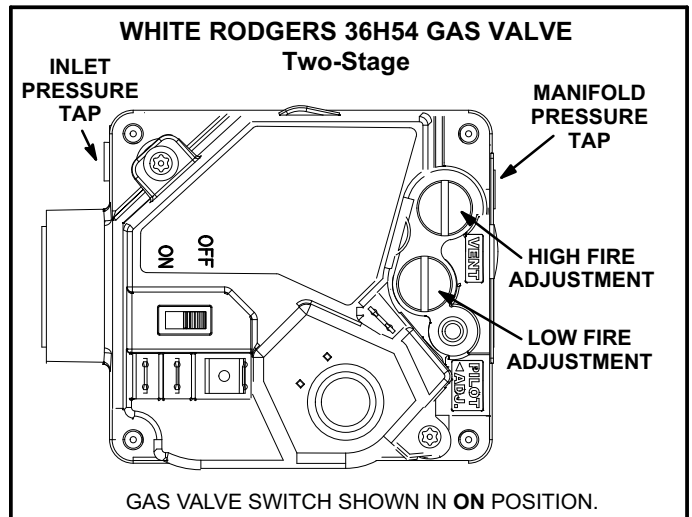
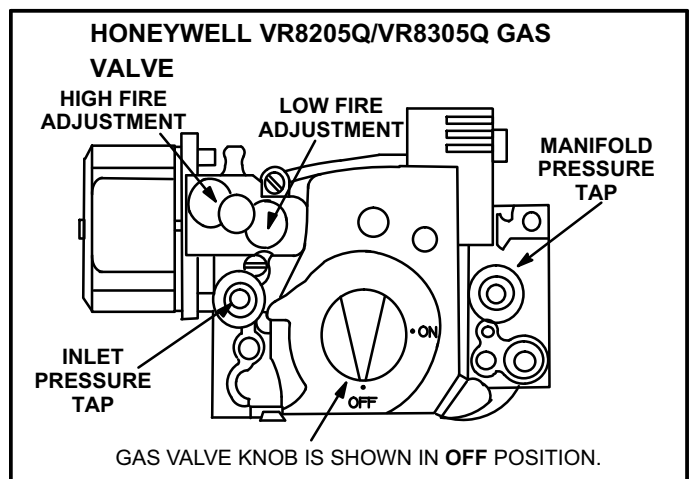

FIGURE 33
FIGURE 34
Gas Valve Operation for Honeywell VR8205Q / VR8305Q and White Rodgers 36H54 (figure 33 and 34)
- 5- Turn gas valve switch to **OFF**. See figure 33. On Honeywell VR8305Q gas valves, turn the knob on the gas valve clockwise  to “**OFF**”. Do not force. See figure 34.
- 6- Wait five (5) minutes to clear out any gas. If you then smell gas, **STOP!** Immediately call your gas supplier from a neighbor's phone. Follow the gas supplier's instructions. If you do not smell gas, go to the next step.
- 7- Turn gas valve switch to **ON**. See figure 33. On Honeywell VR8305Q gas valves, turn the knob on the gas valve counterclockwise  to “**ON**”. Do not force. See figure 34.